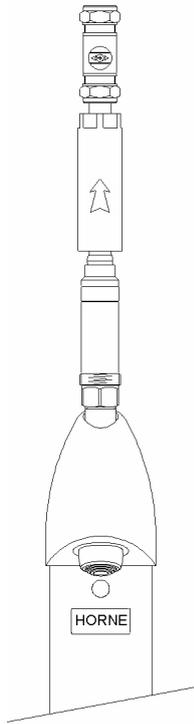

Fig 4
Slide the COVER NUT (3) up to expose the INNER CYLINDER (4) containing the FINE MESH BASKET (10), (see Fig 4).